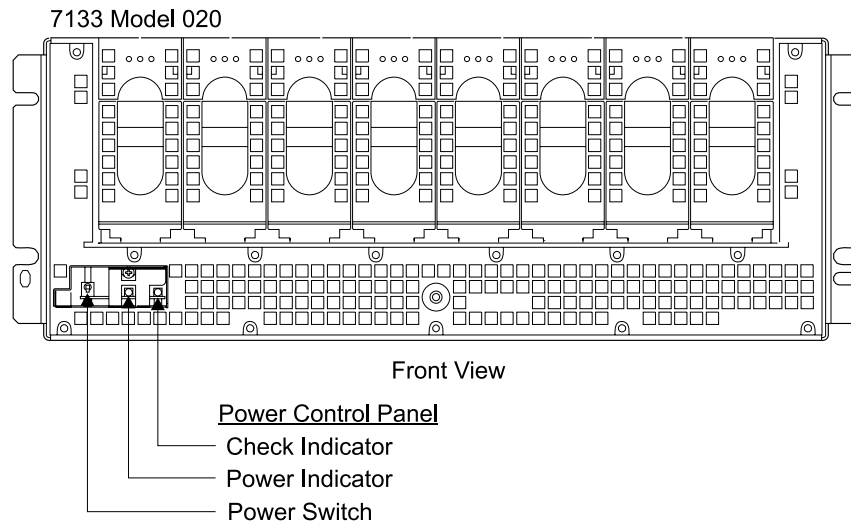

Figure 86. SSA DASD Model 020 Power Control Panel Locations (S008020m)
- 8. Use Figure 86 in the following steps to locate the switch and indicators on the SSA DASD drawer power control panel: